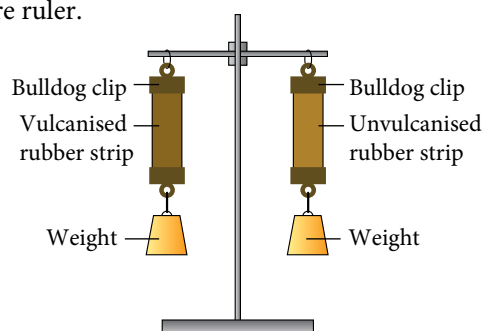

Figure 4.11
1. Hang the two rubber strips on the retort stand using bulldog clips as shown in Figure 4.11.